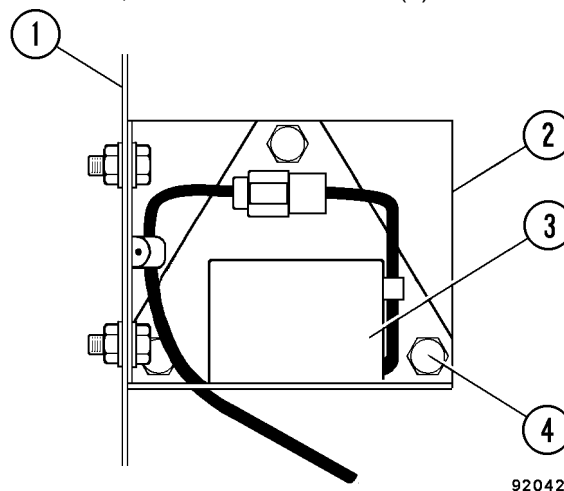

FIGURE 6-13. INCLINOMETER
2. Remove the three capscrews, nuts and lockwashers (4, Figure 6-13) and inclinometer (3).
1. Install inclinometer (3, Figure 6-13) with cap-screws, nuts and lockwashers (4).
2. Loosen the three Inclinometer mounting cap-screws (4, Figure 6-13) and rotate the Inclinometer until a voltage range of  $2.6 \pm 0.1$  Volts can be measured (using a Volt/Ohm Meter) at pins 1 and 2 of the inclinometer electrical harness connector.
3. Tighten all cap-screws (4, Figure 6-13) to standard torque, after adjustment.